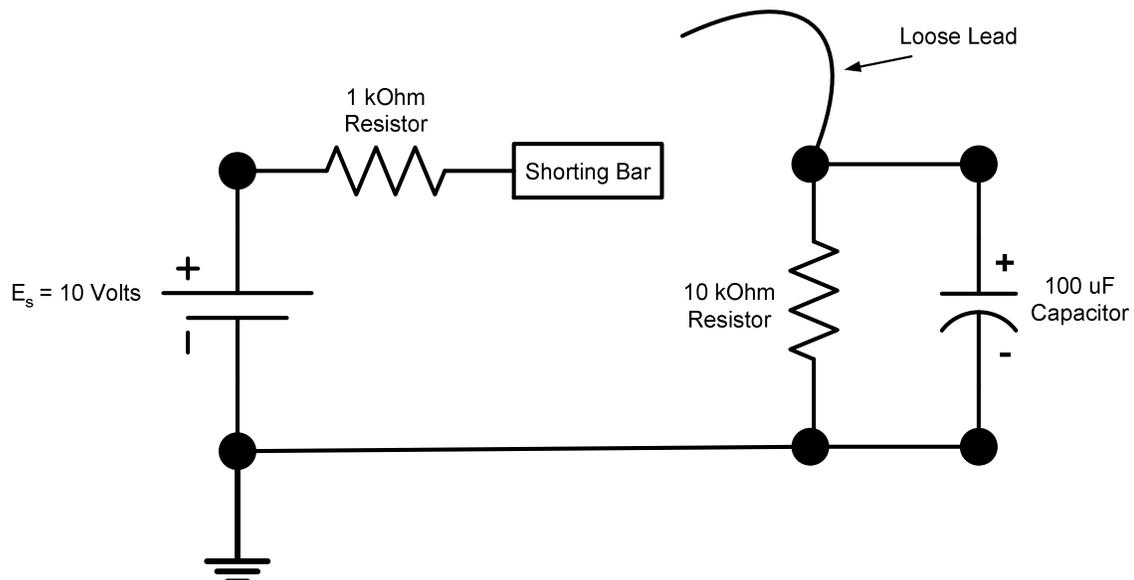

Figure 1
- On your QUAD board construct the Resistor / Capacitor (RC) circuit in Figure 1.
Note: to close this circuit we will touch the end of the loose lead to the center plate of the shunting bar. Before closing the circuit, ensure that the capacitor's polarity is correct IAW Figure 1.
- Connect CH 1 to the circuit (figure 1), so that it will read the voltage across the capacitor.